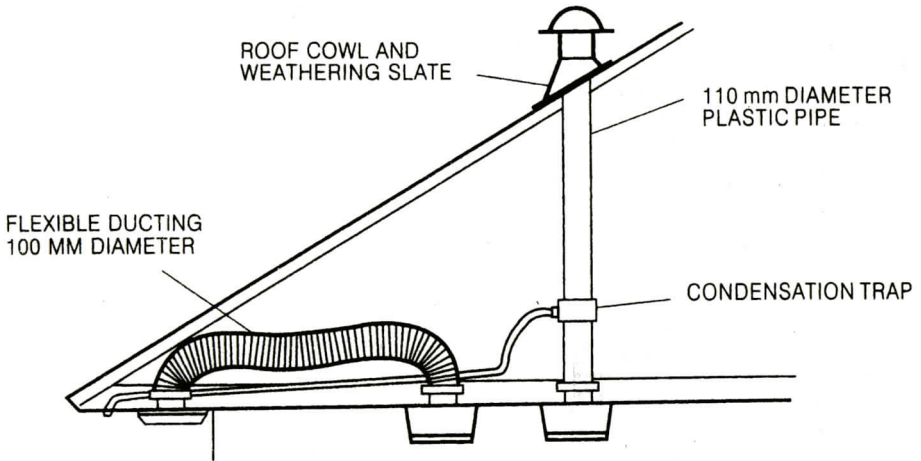

Fig. 12
**7.8** Install ducting from the exhaust spigot either through the roof using a weathering slate and roof cowl, or under the eaves using an outlet grille (both available from Airflow), (see Fig. 12).
**8.8** Install ducting in the roof void (see Section 7.8 and Fig. 12).